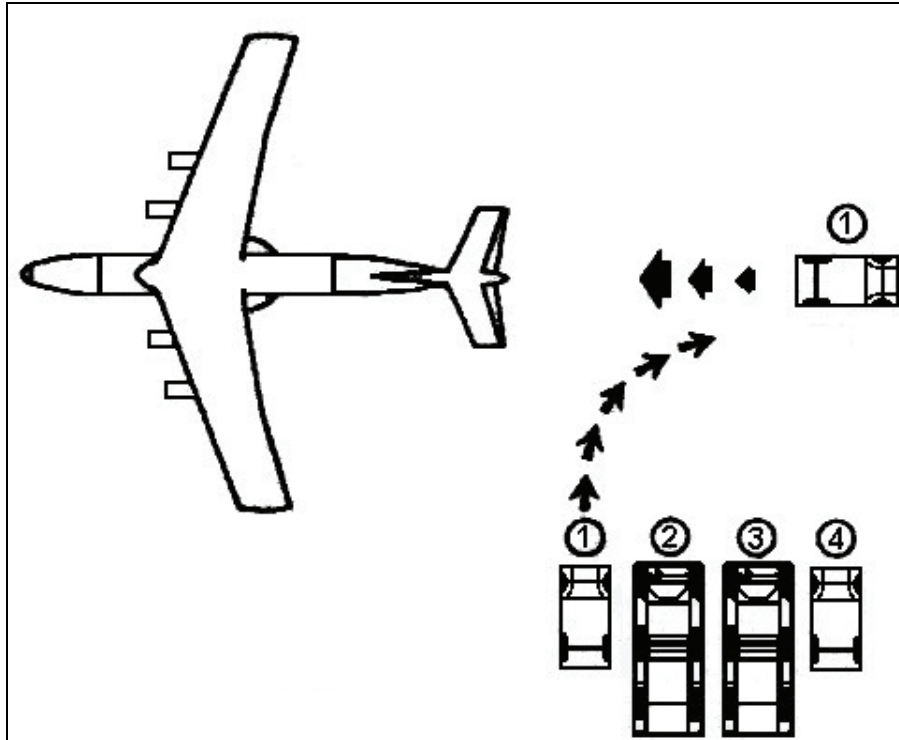

Figure 3-13. Escorting Vehicle Chinks to the Aircraft
6. Escort vehicle chawks to the aircraft (see Figure 3-13).